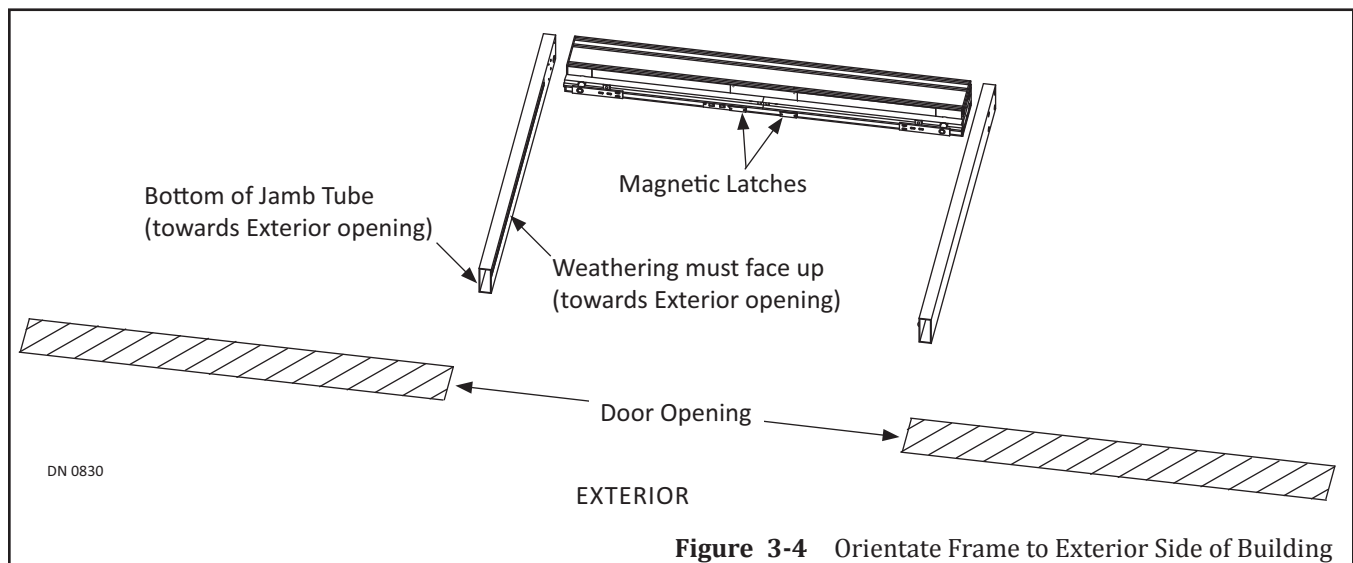

Figure 3-4 Orientate Frame to Exterior Side of Building
1. Remove (4) 1/4-20 x 3/4 inch bolts and (4) 1/4 inch star washers that were pre-screwed inside rivnuts located on each Jamb tube.
2. Position Jamb tubes on either side of Header so the Weathering faces up, towards the Exterior side of building (opposite of Magnetic Latches). Please see Figure 3-4.